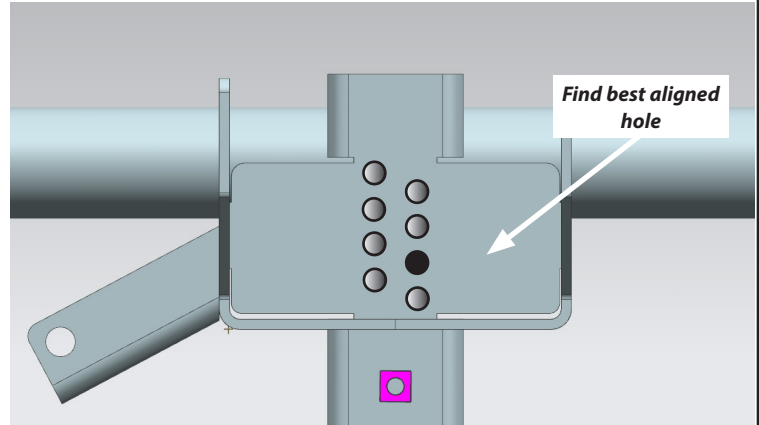

Figure 23
- c. While pushing against the tire, check to see what hole (between the carrier stinger and tire carrier) is the best aligned and mark that hole. See Figure 23.